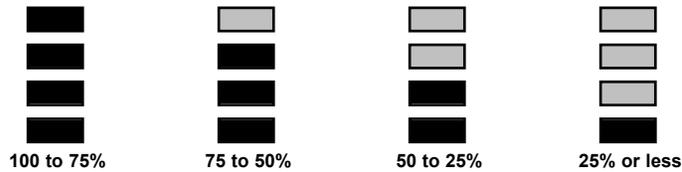

Figure 4. Battery Voltage Status Indications
**Battery Level Indicator:** The GA-92XT® locator displays the current battery level with a 4-segment LCD indicator. As shown in Figure 4, when all four segments are black the voltage level is between 100% and 75%. As the voltage decreases, the number of black segments decreases. Battery life varies with usage and the ambient temperature. Cold temperatures reduce battery life. Low